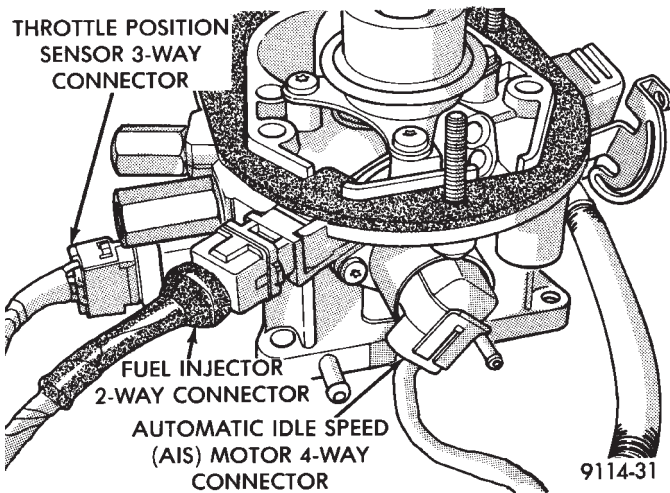

Fig. 8 Throttle Body Wiring Connections
(11) Verify the electrical connector is attached to AIS motor (Fig. 8).
(12) Verify the electrical connector is attached to the throttle position sensor (Fig. 8).
(13) Verify the electrical connector is attached to the fuel injector (Fig. 8).